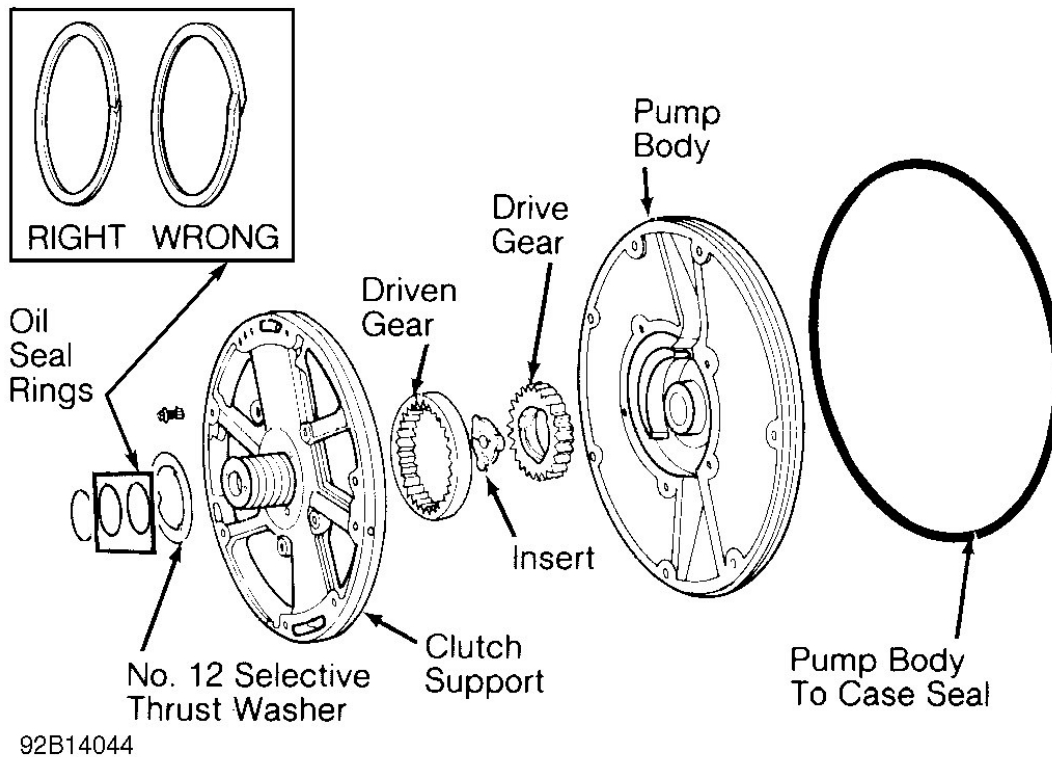

Fig. 4: Exploded View of Oil Pump
1. Remove No. 12 selective thrust washer and oil seal rings from clutch support. Remove pump-to-case oil seal ring from outside diameter of clutch support. See **Fig. 4**.
To reassemble, reverse disassembly procedure. Ensure ends of angle-cut oil seal rings overlap properly. See **Fig. 4**.